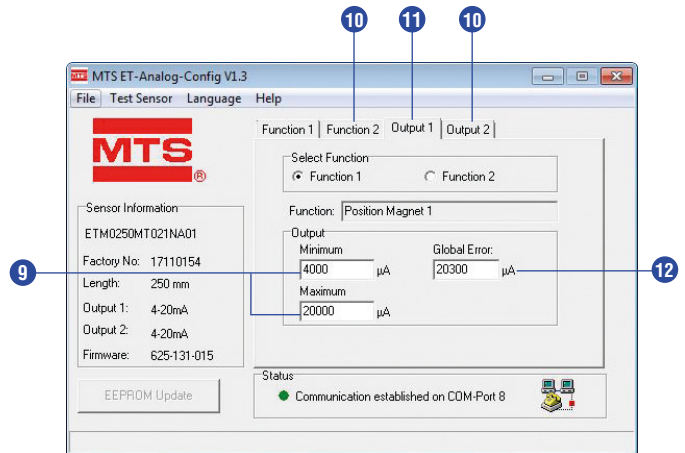

Fig. 31: Example of tab controls
- 9 The field **Output Minimum** indicates the current or voltage value which should be output at the startpoint of the selected function. The output value pertaining to the endpoint must be specified in field **Output Maximum** (Fig. 31).
- 10 On tabs **Function 2**, **Output 2**, the second analog output can be set (Fig. 31).
- 11 On tab **Output 1** the corresponding analog output signals can be allocated (Fig. 31).
- 12 Unless a position magnet is missing or if it is in the sensor's dead zone, i.e. out of measuring range, **Global Error** is output. The error value can be adjusted within **-0.7...20.3 mA** or **-0.4...10.4 VDC** (Fig. 31).